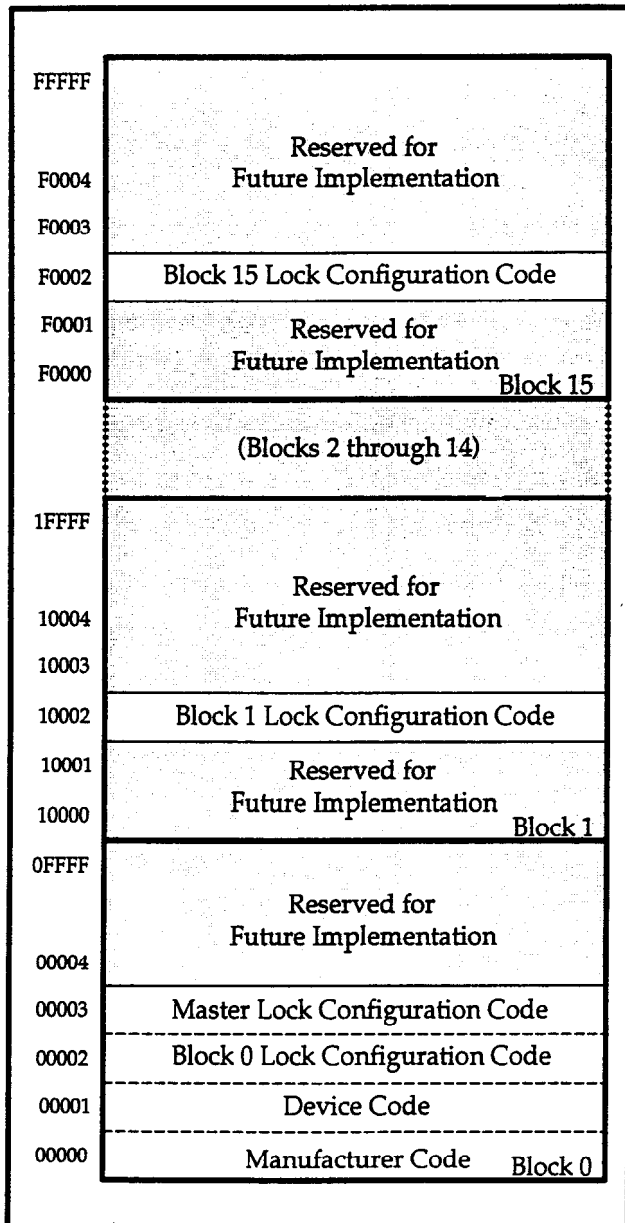

Figure 3. Device Identifier Code Memory Map
The read identifier codes operation outputs the manufacturer code, device code, block lock configuration codes for each block, and the master lock configuration code (see Figure 3). Using the manufacturer and device codes, the system CPU can automatically match the device with its proper algorithms. The block lock and master lock configuration codes identify locked and unlocked blocks and master lock-bit setting.
IA=Identifier Code Address: see Figure 3.
The identifier code operation is initiated by writing the Read Identifier Codes command. Following the command write, read cycles from addresses shown in Figure 3 retrieve the manufacturer, device, block lock configuration and master lock configuration codes (see Table 5 for identifier code values). To terminate the operation, write another valid command. Like the Read Array command, the Read Identifier Codes command functions independently of the V_{PP} voltage and \overline{RP} can be V_{IH} or V_{HH} . Following the Read Identifier Codes command, the following information can be read:
1. X selects the specific block lock configuration code to be read. See Figure 3 for the device identifier code memory map.